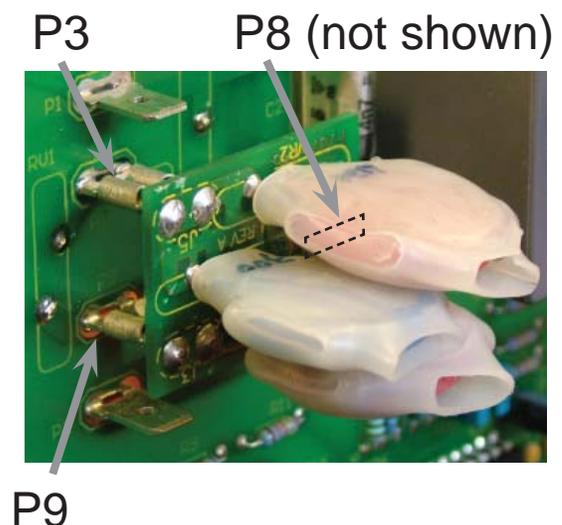

Fig. 6-2, MOV Replacement
5. Replace with the MOV replacement card option (Alpha P/N 704-804-20). Position the card over P3, P9, and P8 and seat firmly as shown in Fig. 6.2.